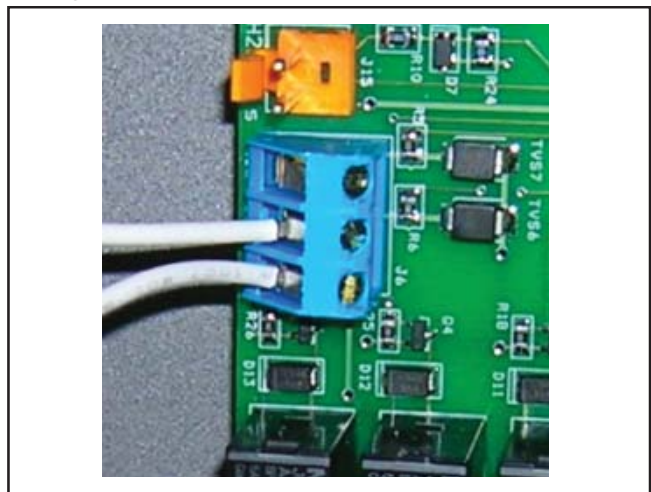

Figure 16b. AquaLink RS or Remote TSTAT Connection (2-Wire Connection)
4. Connect the wiring from the pool/spa control system to the heat pump remote control terminal (See Figure 16b).